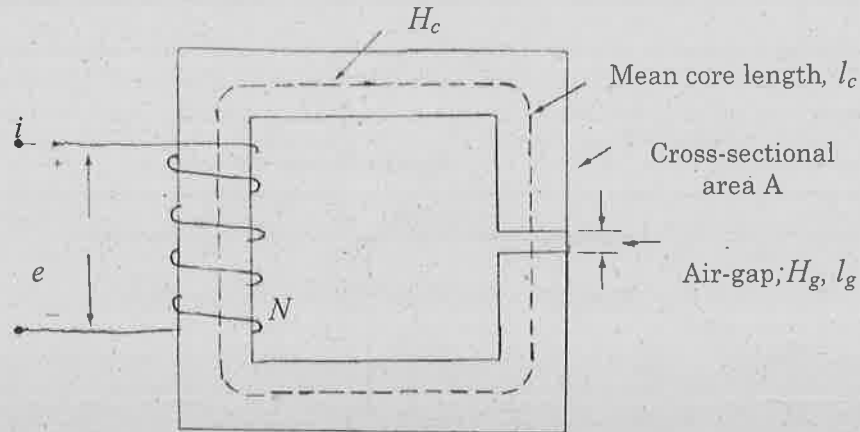

Figure 11 (a). Magnetic circuit
11. (a) The magnetic circuit of Figure 11 (a). has dimensions:  $A_c = 4 \times 4 \text{ cm}^2$ ,  $l_g = 0.06 \text{ cm}$ ,  $l_c = 40 \text{ cm}$ ;  $N = 600$  turns, Assume the value of  $\mu_r = 6000$  for iron. Find the exciting current for  $B_c = 1.2 \text{ T}$  and the corresponding flux and flux linkages. (5 + 8)